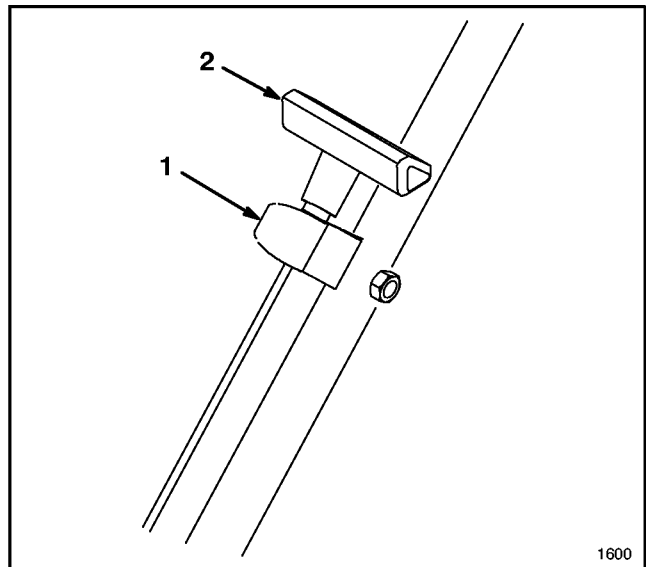

Figure 2
1. Pull the starter rope through the rope guide on the handle (Fig. 2). To make the rope easier to loop,